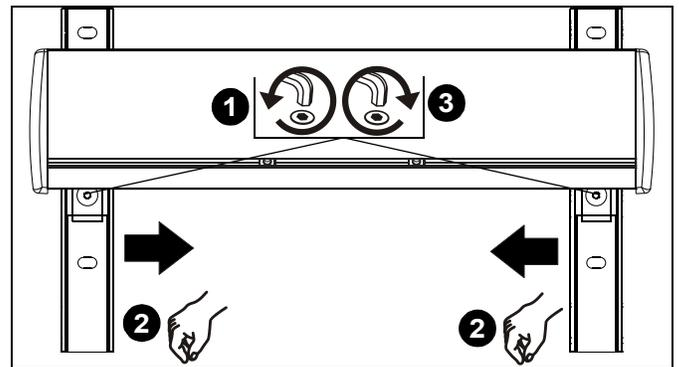

Figure 2
**IMPORTANT ! :** The projector mount wall bracket (U) uprights are factory positioned for 24" stud spacing. The uprights may be adjusted to accommodate 16" on-center stud walls.
1. Loosen two flat head cap screws on projector mount wall bracket (U). (See Figure 2)
2. Slide wall bracket uprights to corresponding width of studs. (See Figure 2)
3. Tighten two flat head cap screws on wall bracket (U). (See Figure 2)